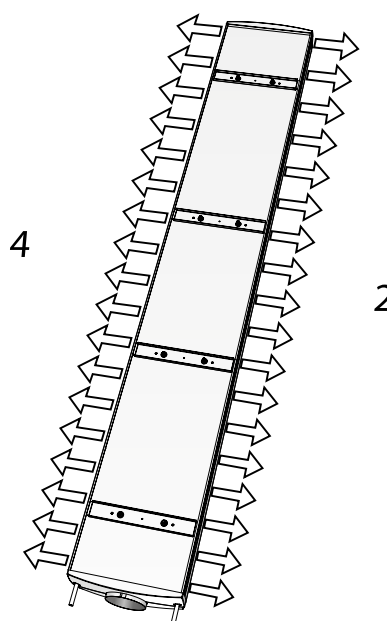

Figure 14. air flow, pages 1-4
N.B.! For specifying asymmetrical distribution, see Figure 14 which describes the mutual relation between the sides viewed from above (Top view) based on the arrangement of the water pipes.